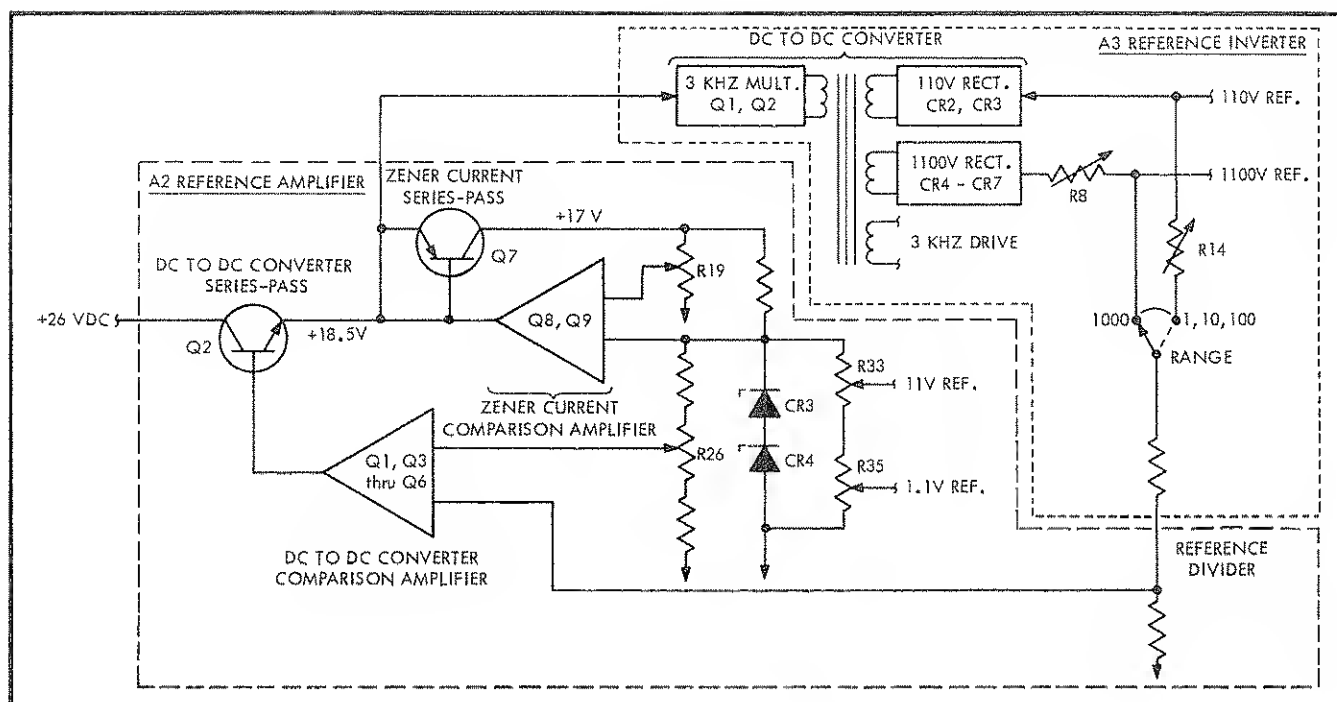

Figure 3-2. REFERENCE AMPLIFIER/REFERENCE INVERTER - SIMPLIFIED
**3-21. GENERAL.** Reference voltages of 1.1, 11, 110, and 1100 volts dc, upon which the stability of the instrument relies, and a 3 kHz output signal are produced by the Reference Supply. The circuitry of the Reference Supply consists of two regulator stages and a dc-dc converter. A block diagram of these circuits is illustrated in Figure 3-2.